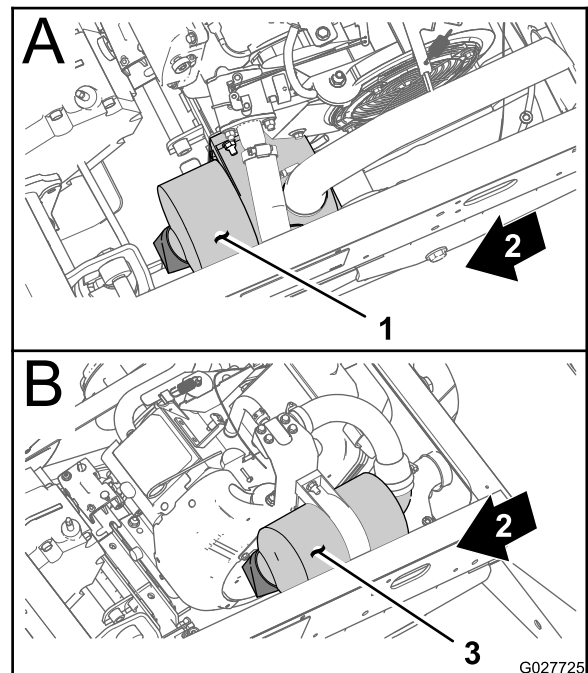
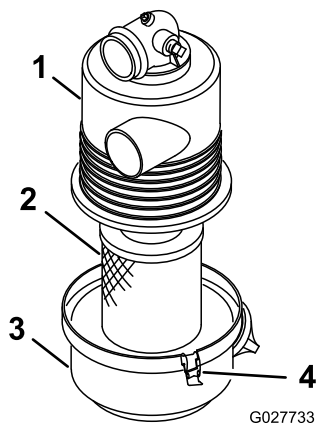

Figure 37
Figure 38
2. Check the air cleaner body for damage which could possibly cause an air leak. Ensure the cover is sealing around the air cleaner body (Figure 37 and Figure 38).
3. Insert the air-filter element into air-filter housing (Figure 38).
4. Align the air-cleaner cover with the air-cleaner housing (Figure 38).
5. Secure the cover to the housing with the latches (Figure 38).
3. Release the latches securing the air-filter cover to the air-filter housing (Figure 38).
4. Separate the air-filter cover from the air-filter housing, and clean the inside of the cover (Figure 38).